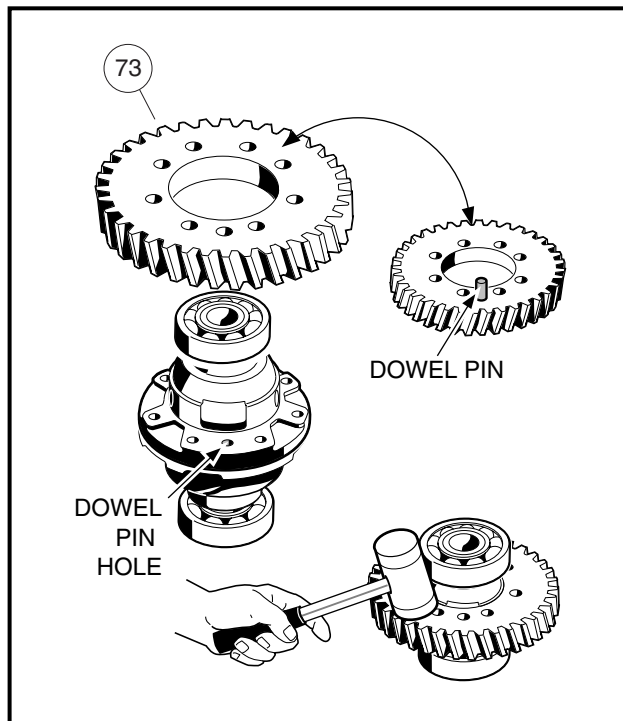

Figure 6-38 Ring Gear
6. Position the output ring gear (73) on the carrier case, visually aligning the dowel hole in the carrier case with the dowel pin in the ring gear (**Figure 6-38, Page 6-19**). Use a plastic or rubber mallet to tap the ring gear into place on the dowel pin.